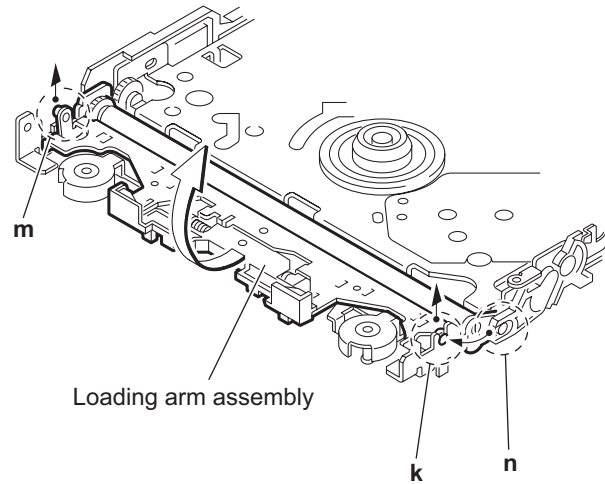

Fig.13
3.4.7 Removing the loading arm assembly. (See Figs.13 and 14)